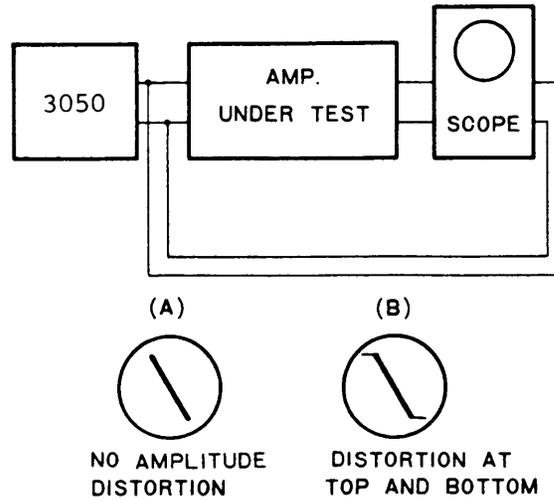

Fig. 7. Phase characteristic measurement.
- b. To determine phase shift, connect the 3050 and an oscilloscope to the amplifier under test as shown in Fig. 7. If there is no phase shift of the output with respect to the input signal of an amplifier under the above condition, the oscilloscope waveform will be a straight line similar to that shown in Fig. 7(A). If the straight line displayed is curved at its top and bottom sections as shown in Fig. 7(B), it indicates that the output signal of amplifier contains amplitude distortion. If this occurs, reduce the output level of the 3050.